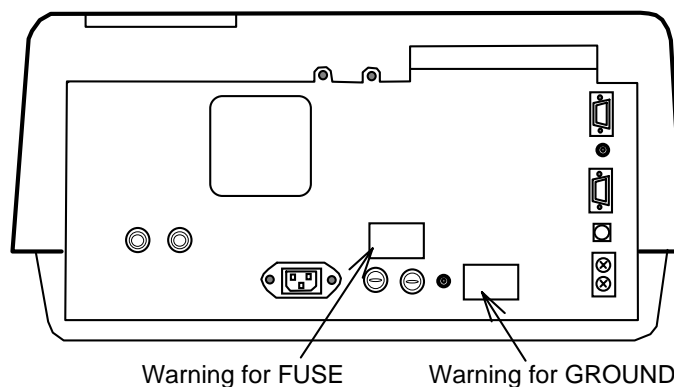
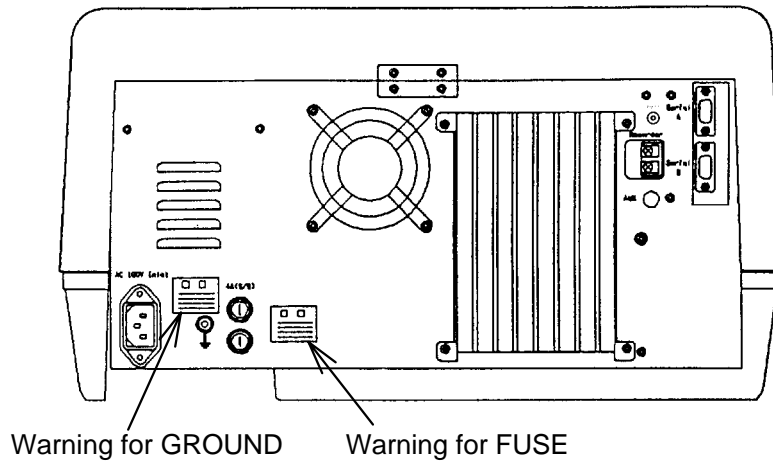

Fig. 1 Warning Labels on the V-530 Rear Panel
Fig. 2 Warning Labels on the V-550/560/570 Rear Panel
1) Warning for FUSE Fig.1 or Fig. 2
2) Warning for GROUND Fig.1 or Fig.2